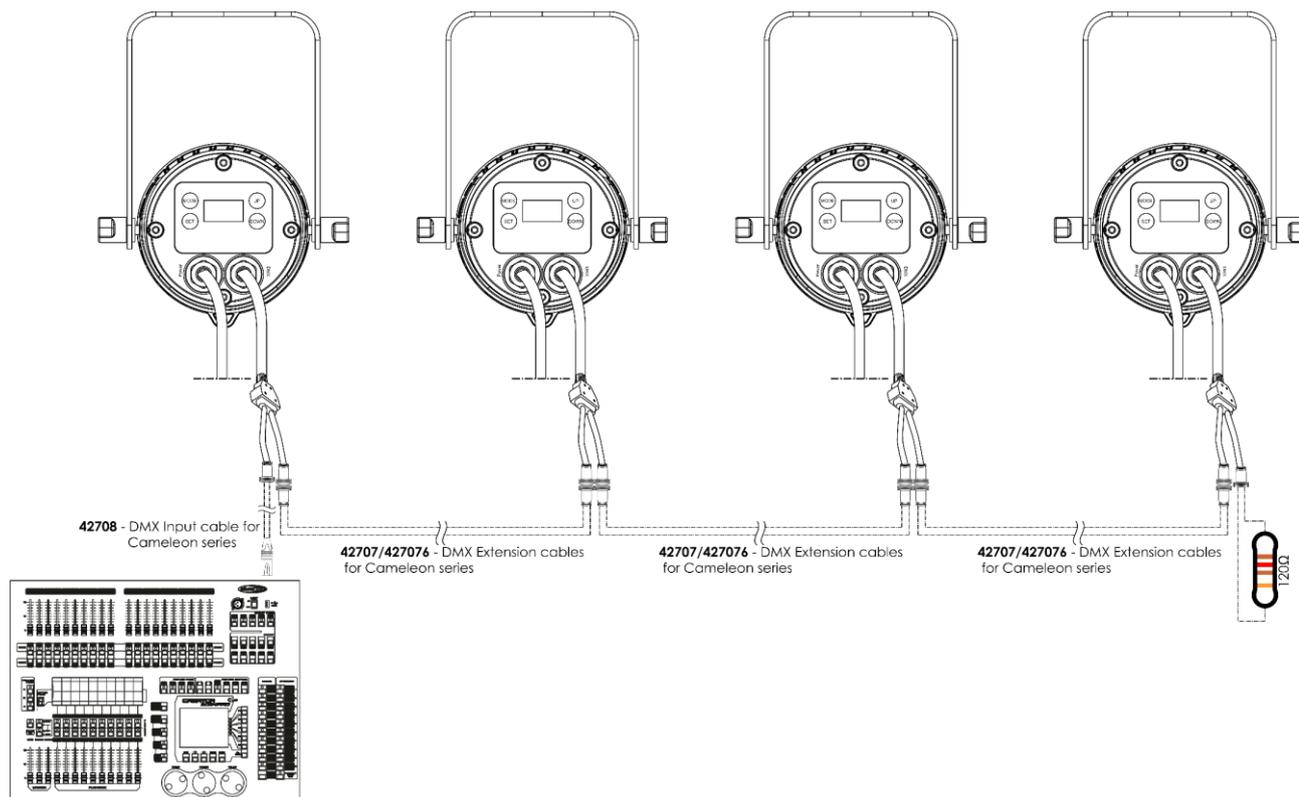

Fig. 04
- 04) Link the units as shown in fig. 04. Connect a light controller to the first unit's DMX "in" socket, using the 42708 – DMX input cable. Connect the first unit's "out" socket with the second unit's "in" socket, using the 42707/427076 – DMX Extension cable, Link the second, third and fourth unit using the 42707/427076 – DMX Extension cable.